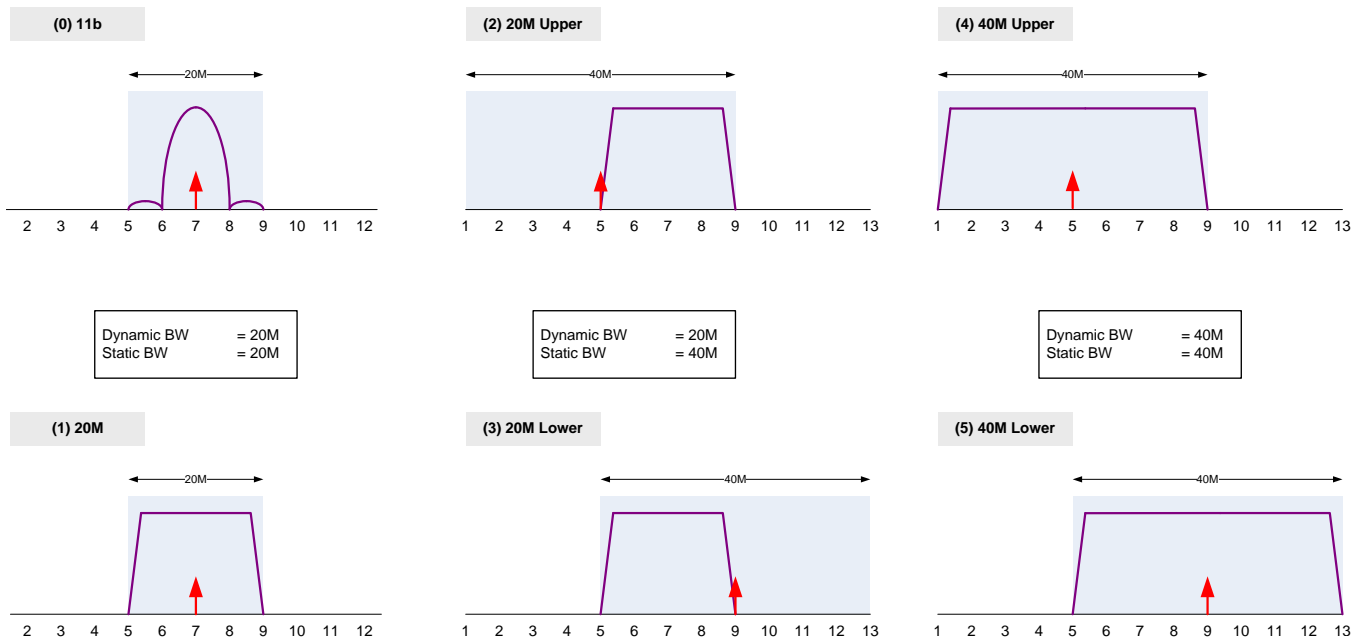

Figure 9. Packet Types for Channel 7
4. To select the channel bandwidth, in the Channel area, click the 20M or 40M button. If the Channel BW is set to 40 MHz, the Primary list box becomes active. Select Upper or Lower channel. Figure 9 shows the packet types for Channel 7.